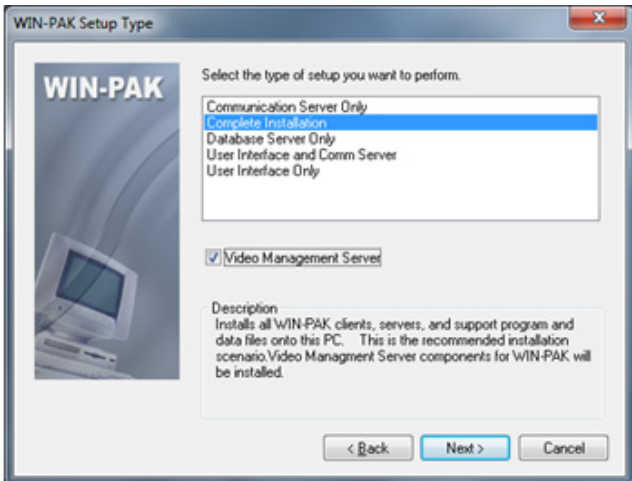

Figure 2-6 Type of Installation
7. Read the license agreement details and click **Accept** to accept the agreement. Figure 2-6 appears.